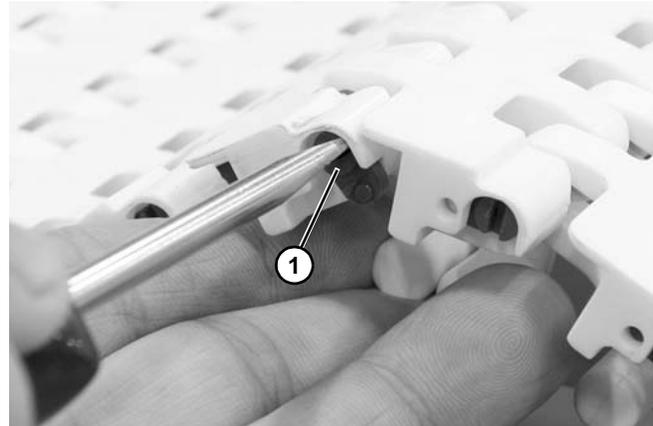

Figure 32
2. Insert a flat blade screwdriver into the slot on the rod head (Figure 32, item 1) and rotate the rod head counterclockwise to unlock.